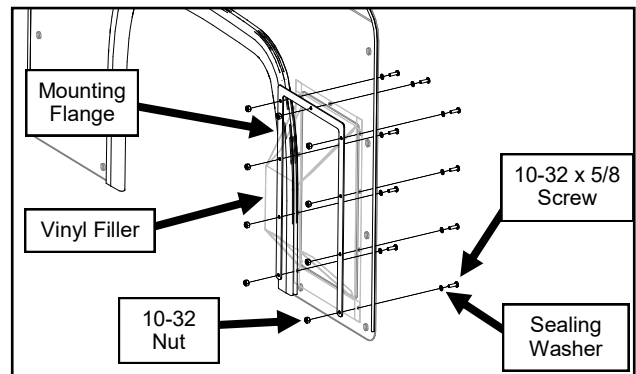

Fig. 9.2 (Pre-Assemble Vinyl Filler to Cowl)
9.2 Pre-assemble the vinyl filler and mounting flange to the cowl. See Figure 9.2.